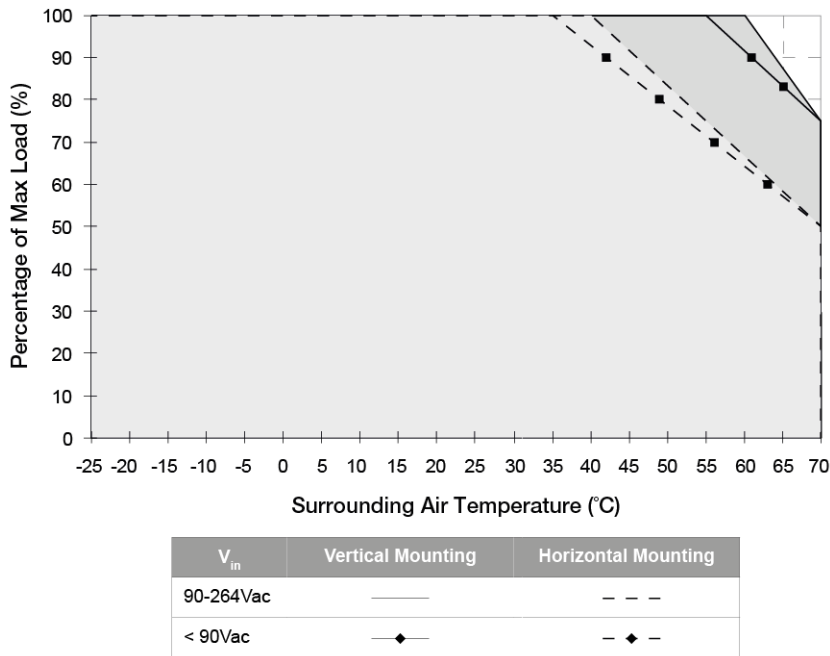

Fig. 5 De-rating for Vertical Mounting Orientation
1. Power supply components may degrade, or be damaged, when the power supply is continuously used outside the shaded region, refer to the graph shown in Fig. 5.
■ No output power de-rating for the input voltage range, refer to Fig. 5 on page 10